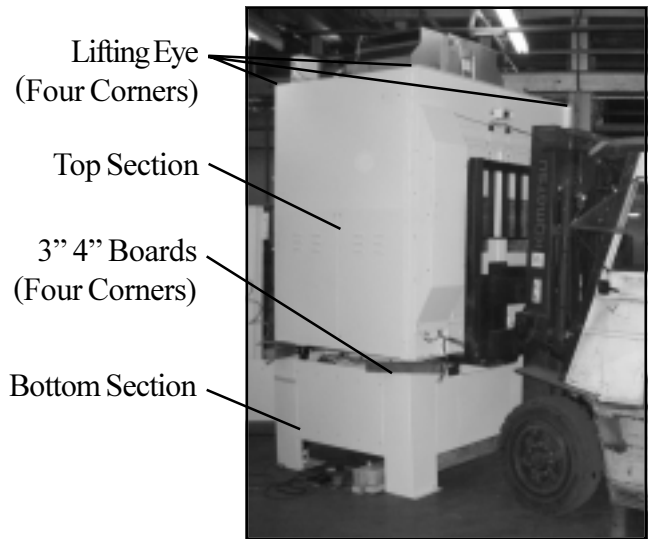

Figure-2A
STEP 4: On each corner of the top section lifting eyes have been provided. When using lifting eyes a spreader bar must be used. **Damage to lifting eyes will occur if a spreader bar is not used.** An alternative to the lifting eyes is a forklift. Put the top section on top of the bottom section onto 3" x 4" boards (See figure-2A). Square up the two sections with each other using the outside edge. The front edge should be even between the two sections. Make sure the "3 x 4" boards are safely between and the top section is stable before going to the next step.